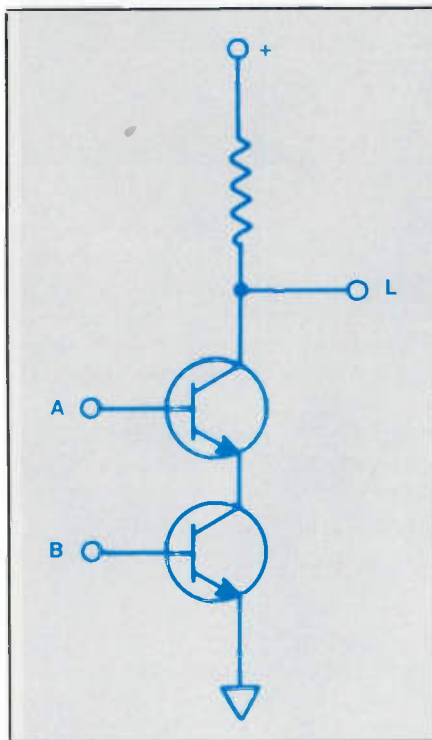

Figure 2
5. Which of the following will produce a low output at L in figure 2?